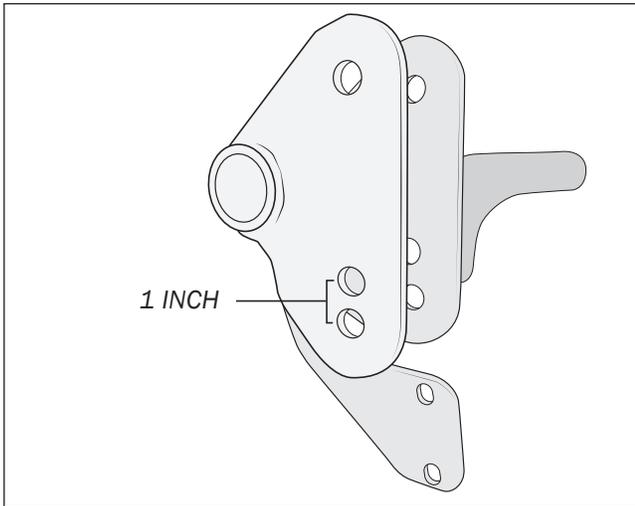

Figure 38
- a. POWER WAGON ONLY – Drill out an additional hole for the track bar 1” higher than existing (fig. 38). Treat for corrosion.